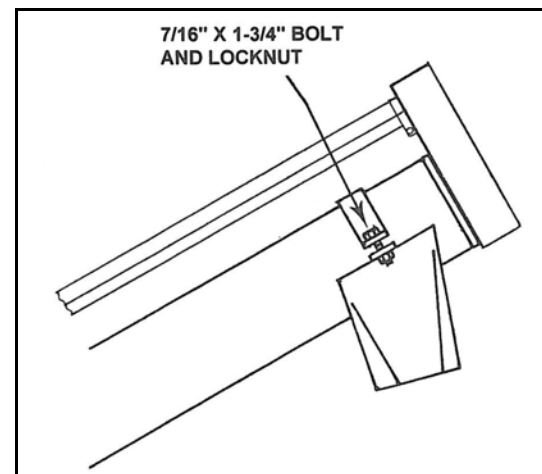

Figure 3.10
1. Attach discharge spout with two 7/16" x 1-3/4" bolts and locknuts (Figure 3.10).